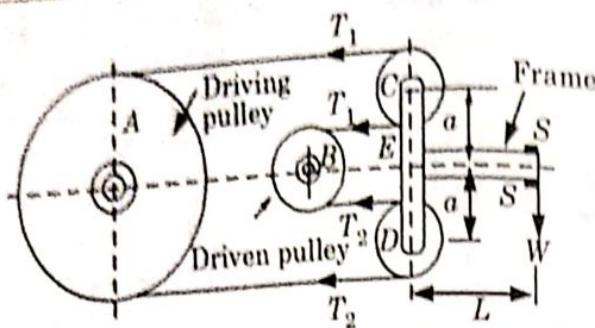

Fig. 5.17.4. Froude or Throneycroft transmission dynamometer.
5. In order to balance it, a weight W is applied at a distance L from E on the frame as shown in Fig. 5.17.4.